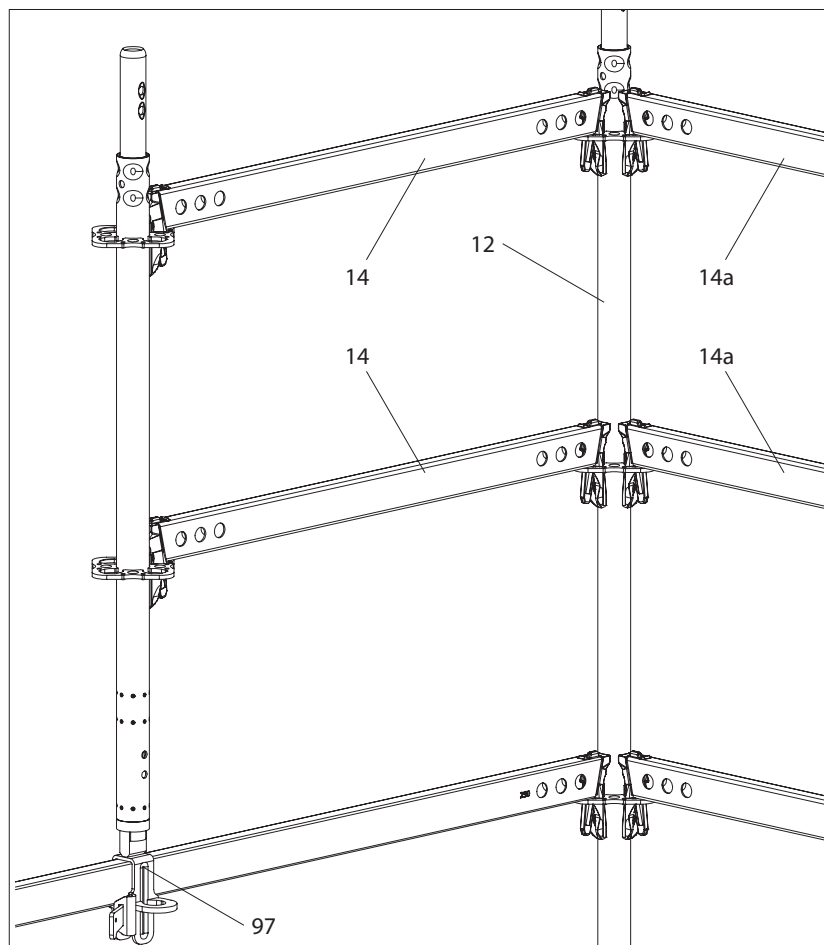

Fig. A11.10
- Its use as a support for a free-standing guardrail post is only possible if the free guardrail post is connected to a torsionally stiff standard (12) with 2 horizontal ledgers  $\leq 2.25$  m (14). The standard (12) must be held by further horizontal ledgers (14a) extending at an angle of  $90^\circ$ . (Fig. A11.10)